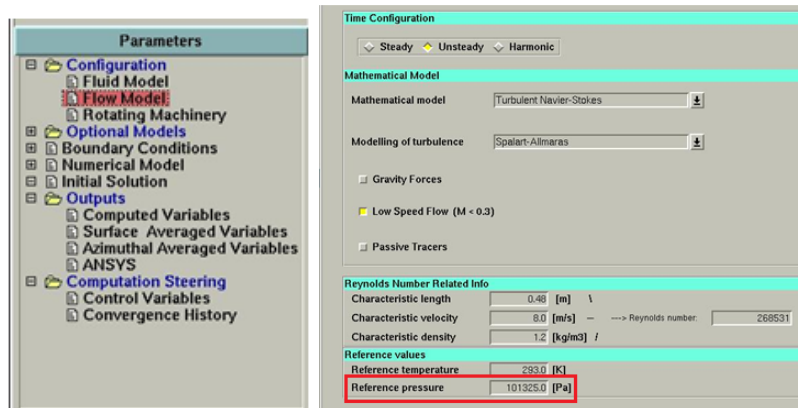

Figure 1: Setting the reference pressure in FINE/Turbo GUI
- When sending relative wall force (RelWallForce) or relative pressure (e.g. Overpressure) a reference pressure must be defined in the Reference Values Panel in Flow Model, which usually corresponds to the atmospheric pressure (see Figure 1).